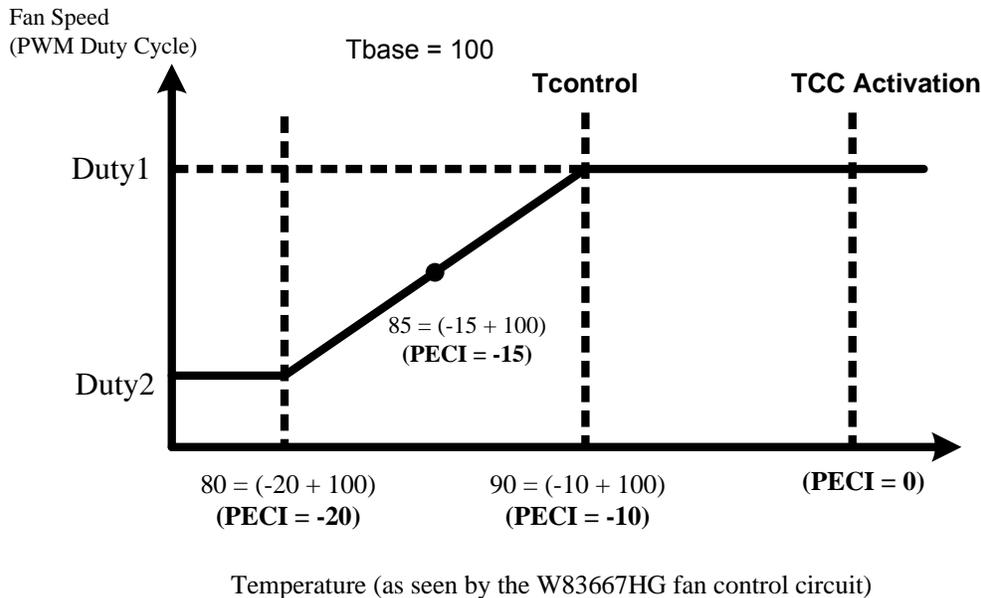

Figure 8-8 Temperature and Fan Speed Relation after Tbase Offsets
**Figure 8-8 Temperature and Fan Speed Relation after Tbase Offsets** shows the temperature/fan speed relationship after Tbase offsets are applied (based on **Figure 8-7 PECI Temperature**). This view is from the perspective of the W83667HG-A fan control circuit.